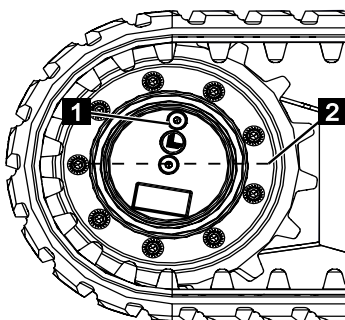

Fig. 250
2. Align the machine (↪ Chapter 7.6 „Driving the machine”, on page 87) so that the threaded connection (Fig.250/1) lies above the centre of the gearbox unit (Fig.250/2).